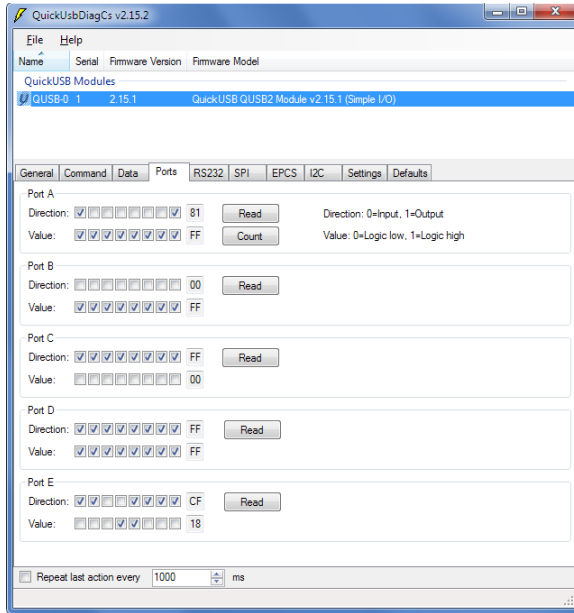

Figure 6 – Reset the FIFO Demo with the QuickUSB Diagnostics Program
- b. Navigate to the “Ports” tab. Under “Port A”, check Bit 7 in the “Dir” bit checkbox field to set PA7 as an output (see Figure 6)
- c. Under “Port A”, check Bit 7 in the “Value” bit checkbox field to drive PA7 high. This will enable power to the FPGA (see Figure 6).
- b. Under “Port A”, check Bit 0 in the “Dir” bit checkbox field to configure PA0 as an output, as shown in Figure 6